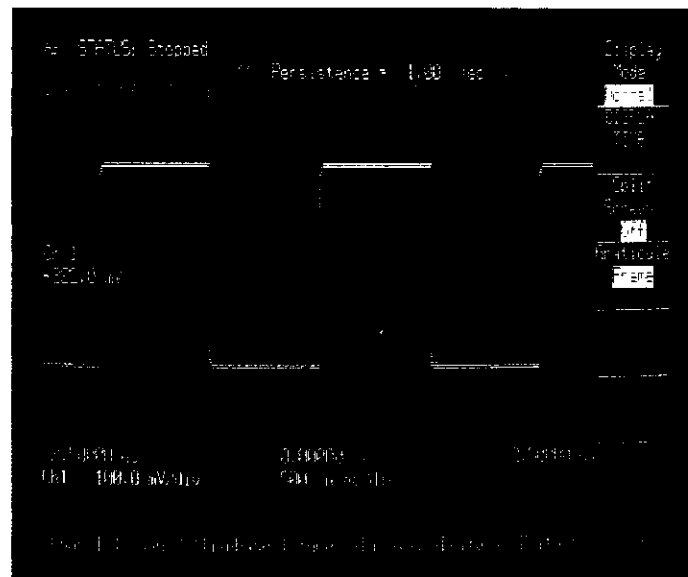

Figure 7-19. Normal Mode
6. Select the normal mode (see figure 7-19). Compare figures 7-18 and 7-19 and notice the reduction of noise on the averaged display. The larger the number of averages the greater the reduction of the displayed noise and the longer it takes to respond to any change in the input signal.